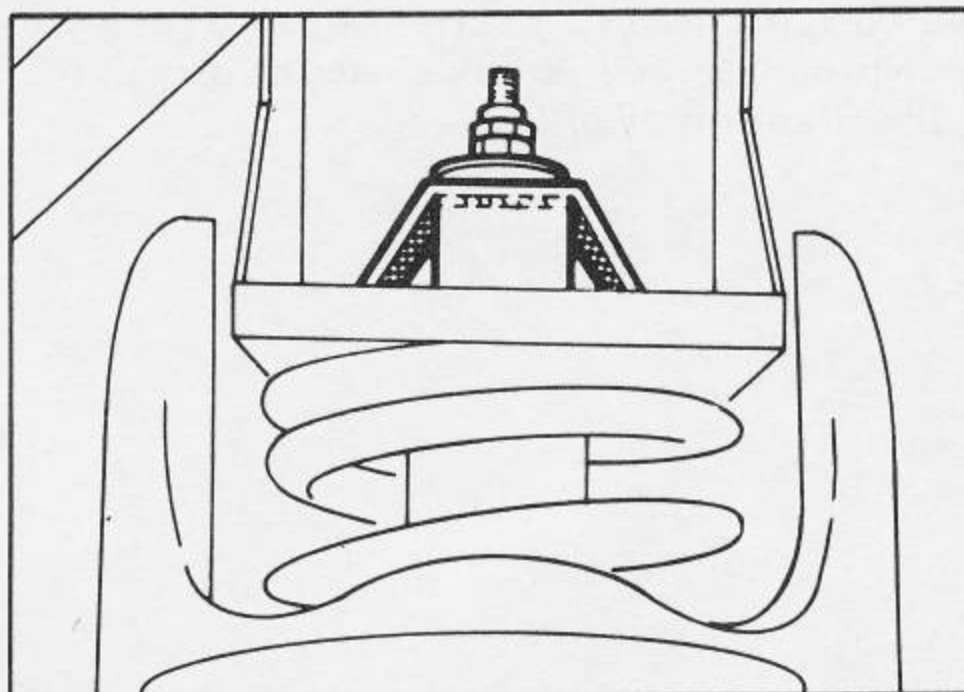

Fig.26 Shock absorber top mount.
3. Remove shock absorber top Fig.26 mounting nut and two bottom mounting nuts. Withdraw shock absorber through lower wishbone arm.